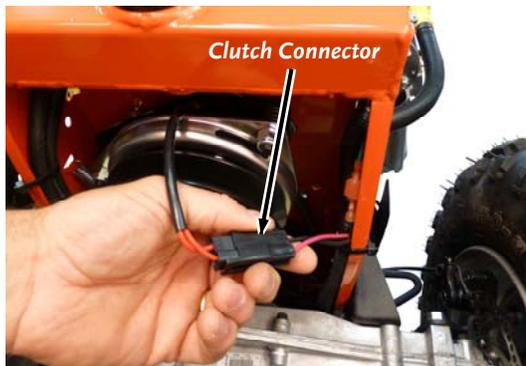

Figure 28
2. Disconnect the Clutch Connector by lifting the locking tab and separating the two halves (**Figure 28**).